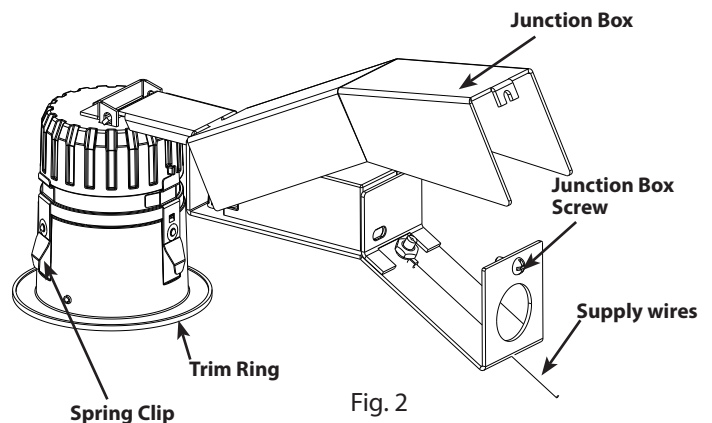

Fig. 2
6. Loosen the **Junction Box Screw** and open the **Junction Box** (Fig. 2). Attach **Supply Wires** into **Junction Box** and connect to the fixture. See wiring section for details.
2. Loosen the **Junction Box Screw** and open the **Junction Box** (Fig. 2). Attach **Supply Wires** into **Junction Box** and connect to the fixture. See wiring section for details.